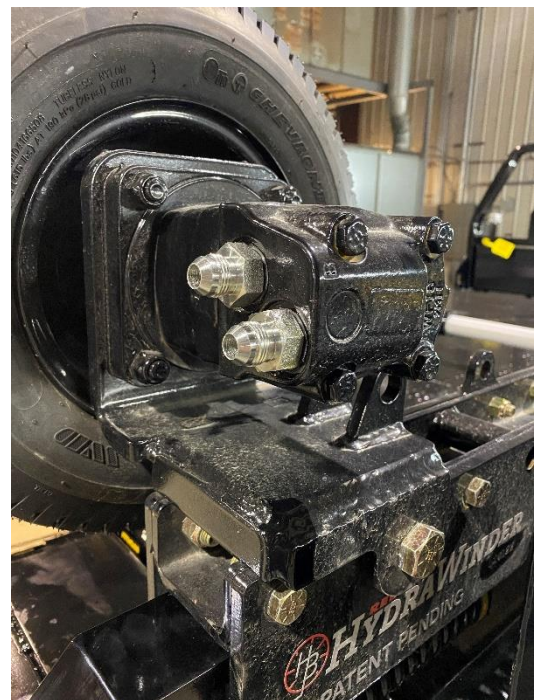

Figure 4
2. Install the two (2) straight JIC to O-ring fittings into the hydraulic motor. Figure 4